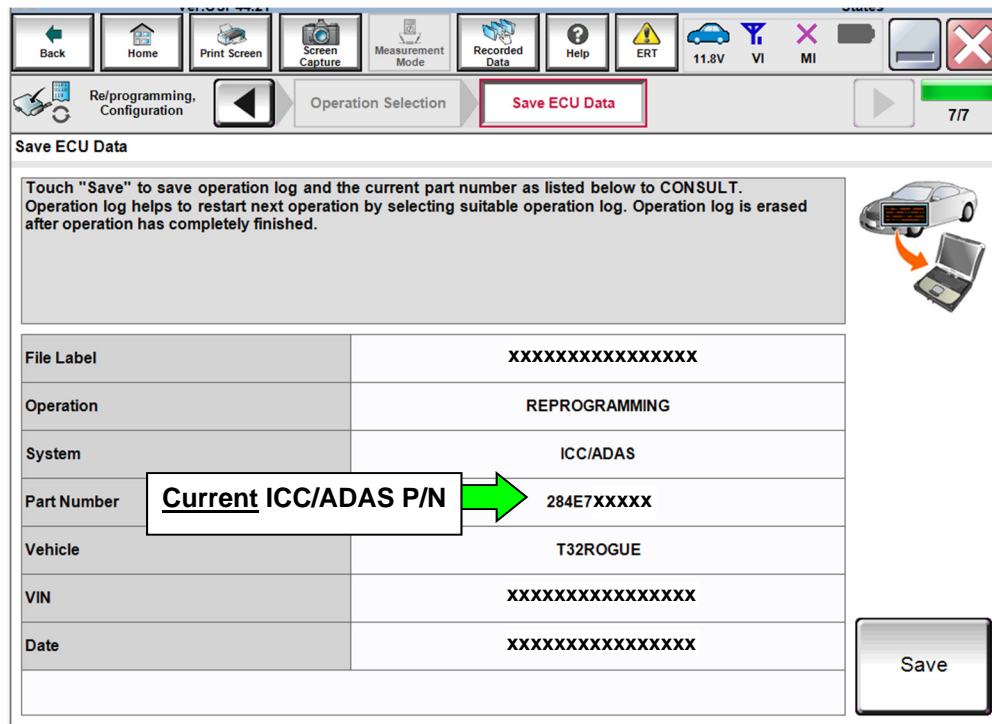

Figure 27
44. When you get to the screen shown in Figure 27, confirm that a reprogram is available as follows.